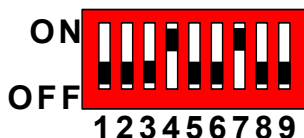

FIGURE 1. INITIAL DIP SWITCH SETTINGS
Step 1: Switch on bit 4 and bit 7 of the Dip-switch. Leave all other bits off, see Figure 1.